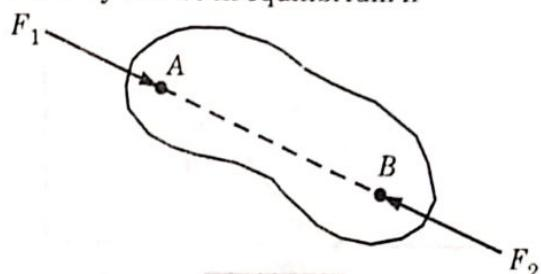

Fig. 3.3.1.
- A. **Two Force System** : Fig. 3.3.1 shows a member under the action of two forces. The body will be in equilibrium if